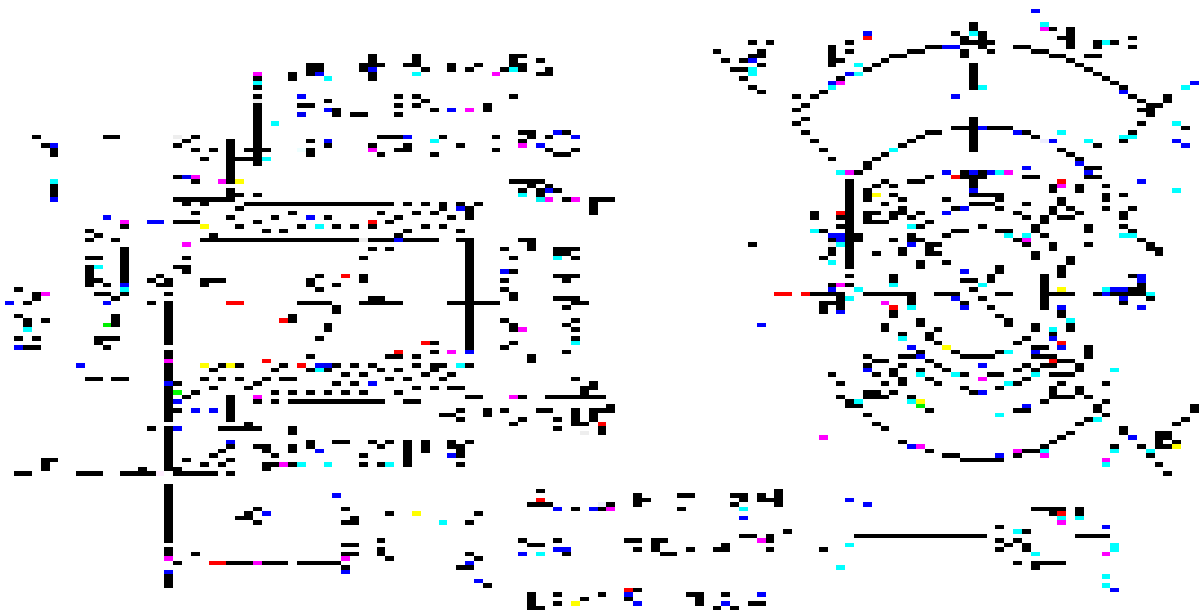

Fig. No. 1
11. Design a jig for drilling Φ 10 mm holes for a component shown in fig. no. 1. **20**
12. Design a Milling fixture to mill at face A and B to maintain dimension $64^{+0.0}_{-0.1}$ mm for a component shown in fig. no. 1. **20**